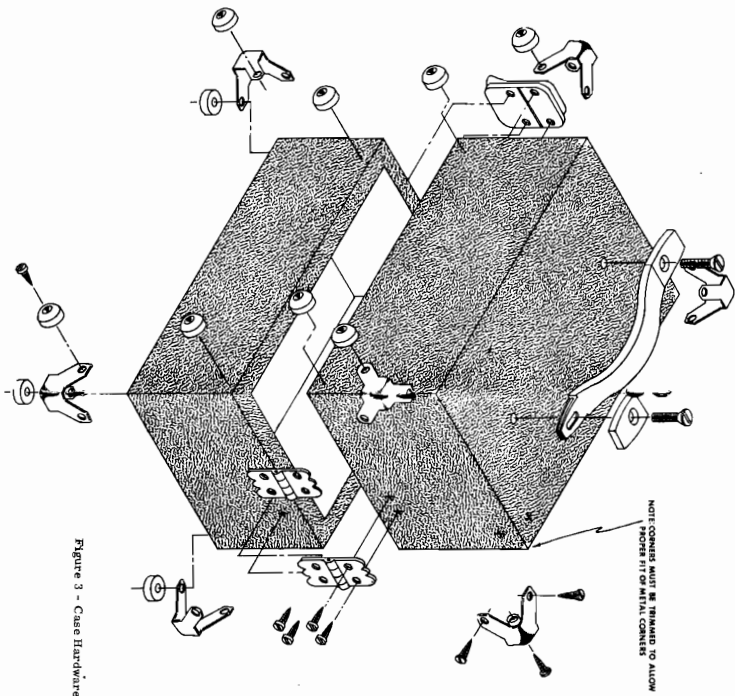

Figure 3 - Case Hardware Placement
During case assembly it may prove helpful to use a 1/16" drill or ice pick to produce pilot holes for any screws which go into the wooden case. Refer to figure 3 for proper case hardware placement.
- ( ) Prepare the wood case for mounting the metal corners by trimming the FOUR REAR corners with a razor blade or sharp knife. (See figure 3.) This will allow the metal corners to mount flush against the case.
- ( ) Using two #4 X 3/8" screws, mount the remaining two rubber feet near the front edge of the case bottom. The rubber feet should be located approximately 3/4" from each edge. (See figure 3.)
- ( ) Close the wing cabinets and arbitrarily designate one of the units as the top half and the other as the bottom half. On the wing cabinet which is designated as the bottom, mount four rubber feet using the #4 X 3/8" screws which have already been used to mount the metal corners to the case back. (See figure 3.)